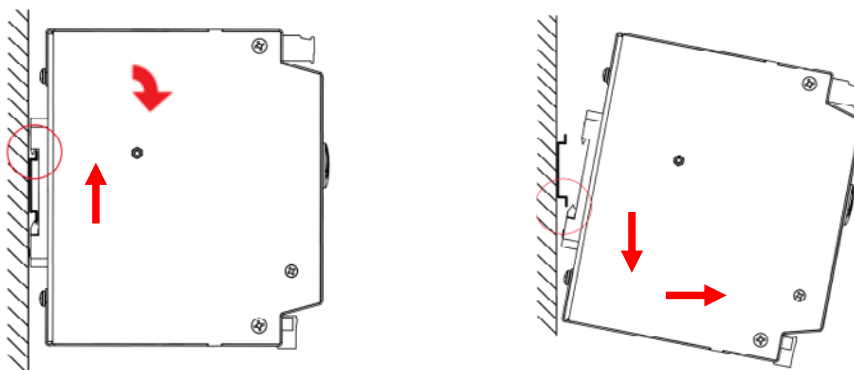

Figure 3. Demounting unit from DIN Rail
1. Push up and pivot the top of the unit away from the rail. as illustrated in the first drawing of Figure 3.
2. When the top hook is detached, slightly lower the unit to disengage the spring-loaded clip and pull the unit away from the rail as illustrated in the second drawing of Figure 3.